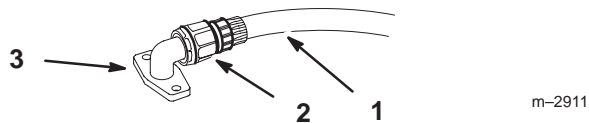

Figure 1
3. Attach coupling and fitting to hose (Fig. 1).